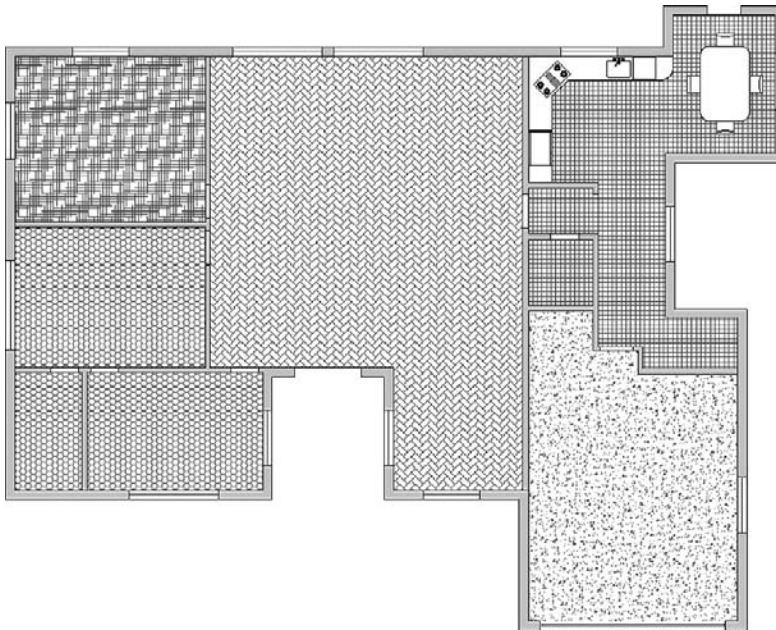

FIGURE 15.72
Step 2. Freeze all layers that are not relevant to the carpeting, leaving only walls, wall hatch, appliances, and windows. Draw a set of temporary lines to block off doorways so the hatch does not bleed from one room into another. Finally create the carpeting/flooring plan shown in Figure 15.72.